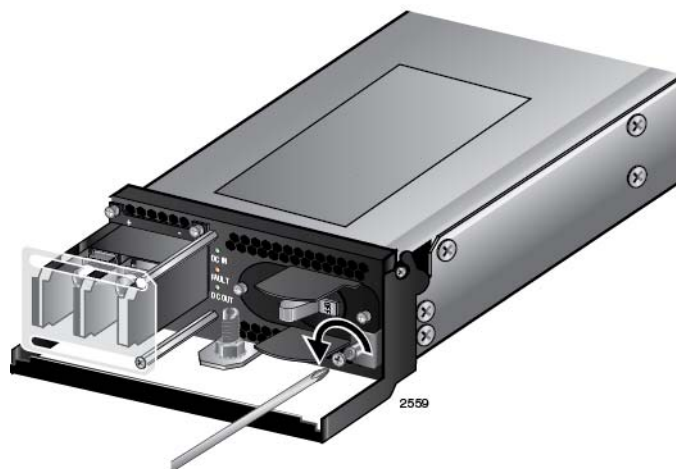

Figure 60. Loosening the Handle locking Screw on the AT-SBxPWRPOE1 DC System Power Supply
4. With a #2 Phillips-head screwdriver, loosen the handle locking screw on the power supply, as shown in Figure 60 on page 122.